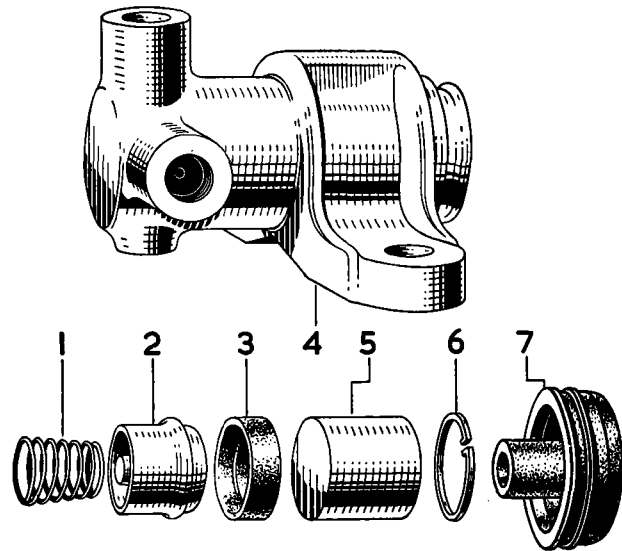

Fig. 7. Exploded view of clutch slave cylinder.
The clutch slave cylinder consists of a body (4 Fig. 7) which incorporates two threaded connections and is bored to accommodate a piston (5) against the inner face of which a rubber cup (3) is loaded by a cup filler (2) and a spring (1); the travel of the piston is limited by a circlip (6) fitted in a groove at the end of the bore. A rubber boot (7) through which a push-rod passes, is fitted on to the body to prevent the intrusion of dirt or moisture.